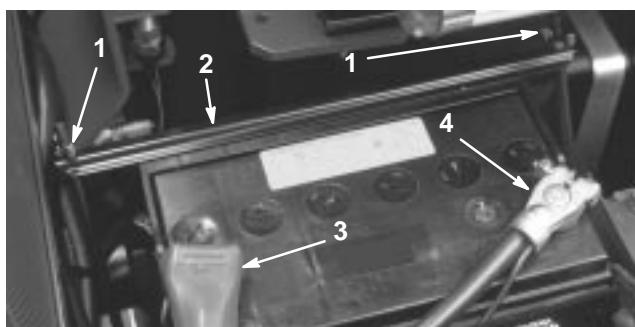

Figure 6
2. Remove two wing nuts and hold down strap that secures battery (Fig. 6). Lift battery out of chassis. Keep wing nuts and hold down strap in safe place for later use.
1. Install battery and secure with hold down strap and wing nuts (Fig. 6). Remove tape over ends of each cable.
2. Slide the red, positive battery cable (Fig. 6) onto positive battery post and tighten nut securely.
3. Slide the black, negative battery cable (Fig. 6) onto negative battery post and tighten nut securely.
4. Coat both battery connections with either Grafo 112X (skin-over) grease, Toro Part No. 505-47, petroleum jelly or light grease to prevent corrosion and **slide rubber boot over positive terminal** (Fig. 6).